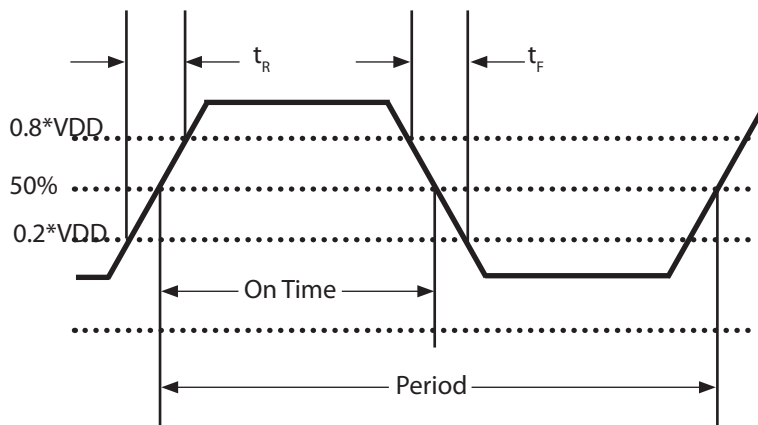

Figure 4. Output Waveform
- 4] Measured from 20% to 80% of a full output swing as shown in Figure 4.